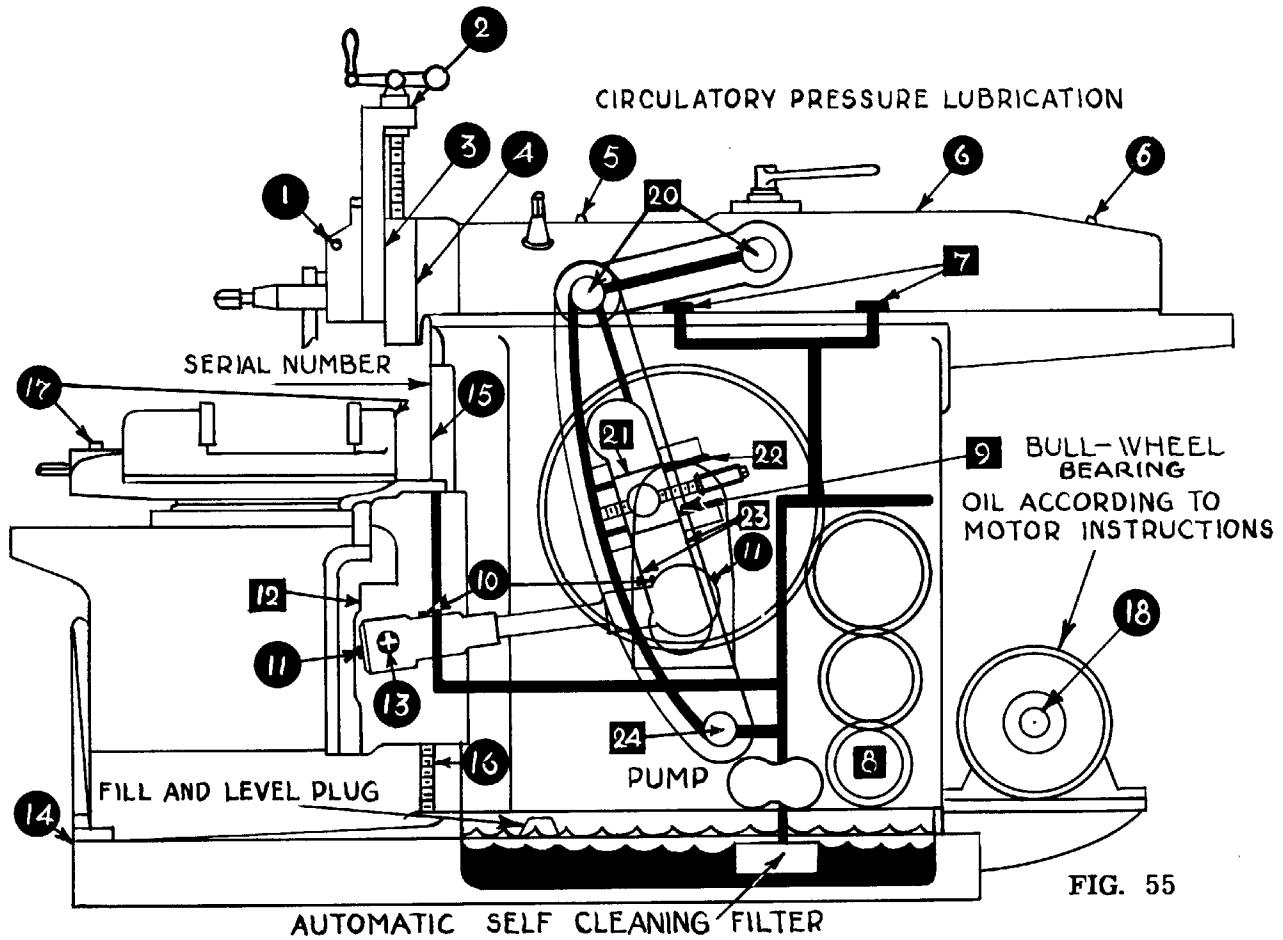

FIG. 55
19. Oil the places where the gear shift and clutch levers emerge from the transmission and column. (These places are not shown in Fig. 55.)